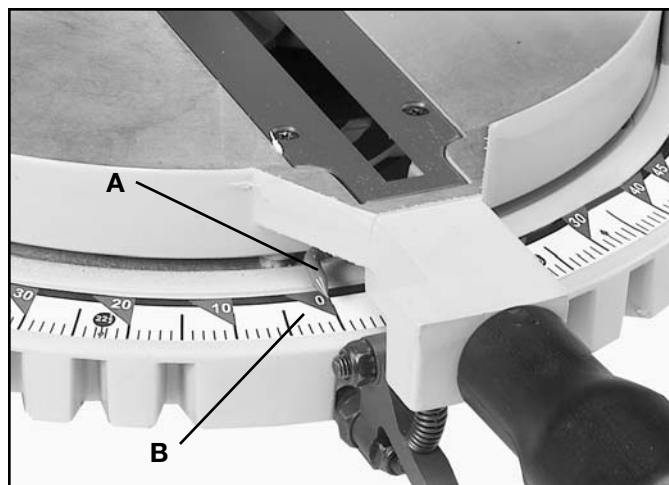

Fig. 16
A pointer (A) Fig. 16, is supplied which indicates the actual angle of cut. Each line on the scale (B) represents 1°. In effect, when the pointer is moved from one line to the next on the scale, the angle of cut is changed by 1°.